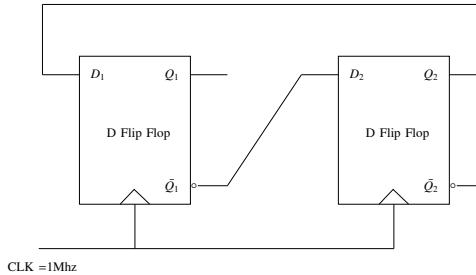

Fig. 5.8
8. In a given sequential circuit in Fig. 5.8, initial states are $Q1 = 1$ and $Q2 = 0$. For a clock frequency of $1MHz$, find the frequency of signal $Q2$ in kHz (rounded off to the nearest integer). (GATE EC 2023)